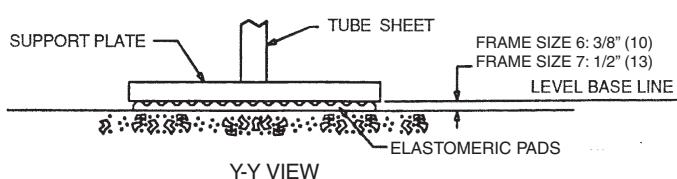

Fig. 33 – Standard Isolation
1. Y-Y dimension refers to standard soleplate. See Fig. 33.